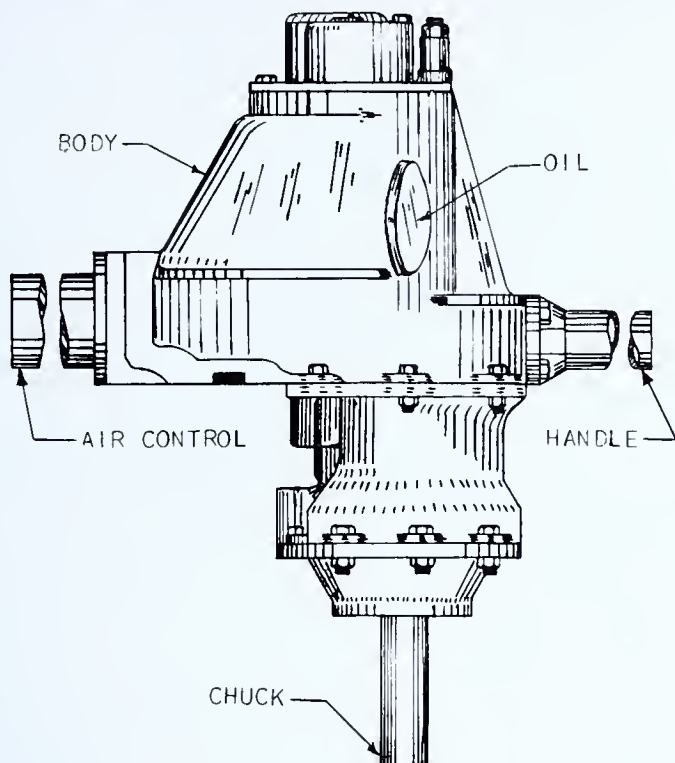

FIG. 477 — No. 5 Compound Expanding Machine
11. Place the No. 5 compound tube expanding machine. (Fig. 477.)